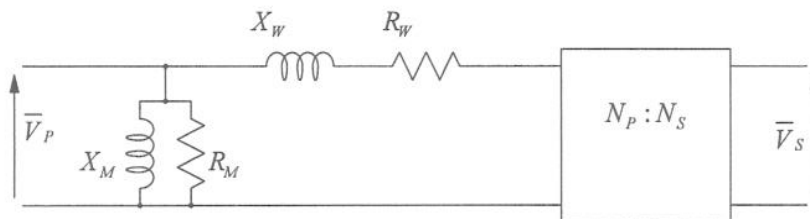

Figure Q4
4. A transformer has been designed as a step-down transformer for use in a 50 Hz distribution system. The design equations indicate that the following parameters will apply to the approximate equivalent circuit shown in figure Q4.
- (a) For the equivalent circuit in figure Q4: